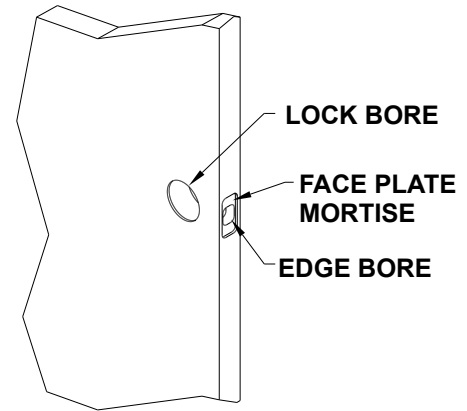

Figure 3
- Door may be removed from hinges to cut out lock bore and mortise more easily. Locate the center of the lock bore and edge bore from your existing door and transfer the measurements to your new door. Use the recommended backset of the new hardware or the existing backset from your existing door. Drill the lock bore and the edge bore as shown in Figure 3.